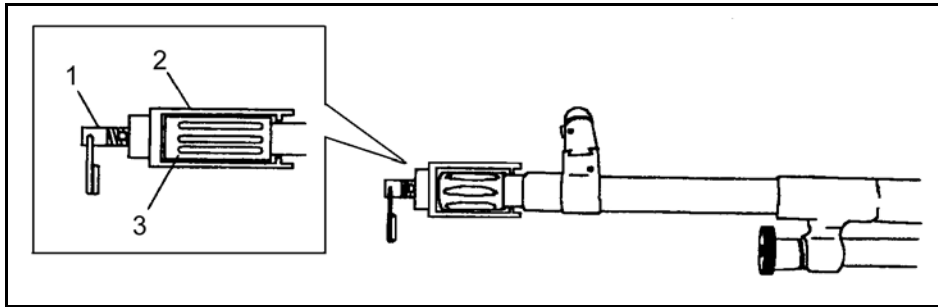

Figure 3-7. Attach the blank firing attachment.
- (1) **Attach the BFA** (Figure 3-7). Unscrew the shaft (1) until it slides all the way to the rear. Install the chamber device (2) over the flash suppressor (3). Slide the shaft (1)